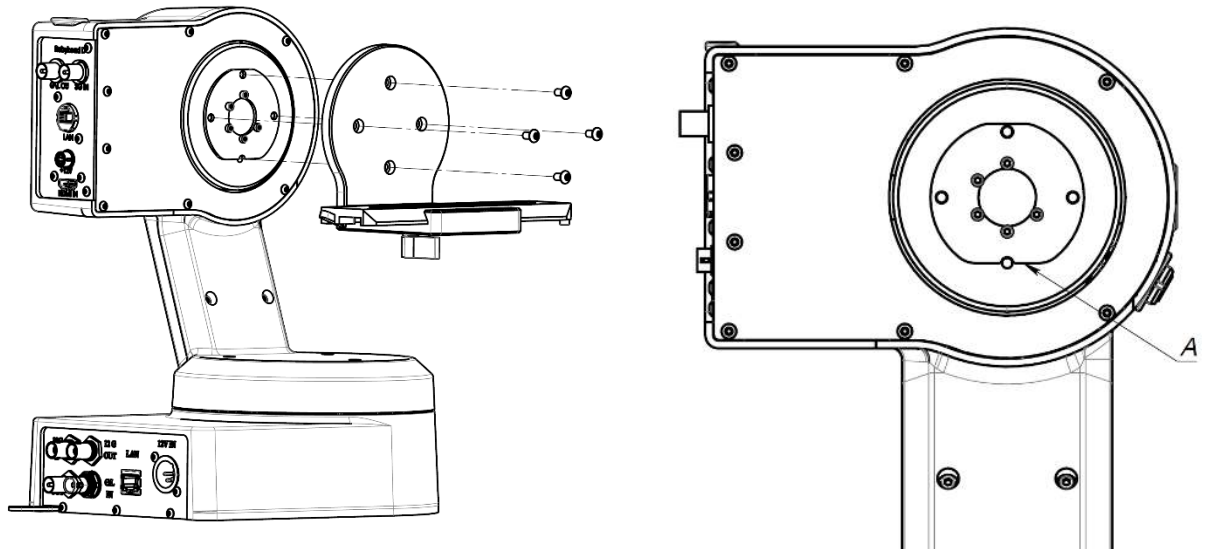
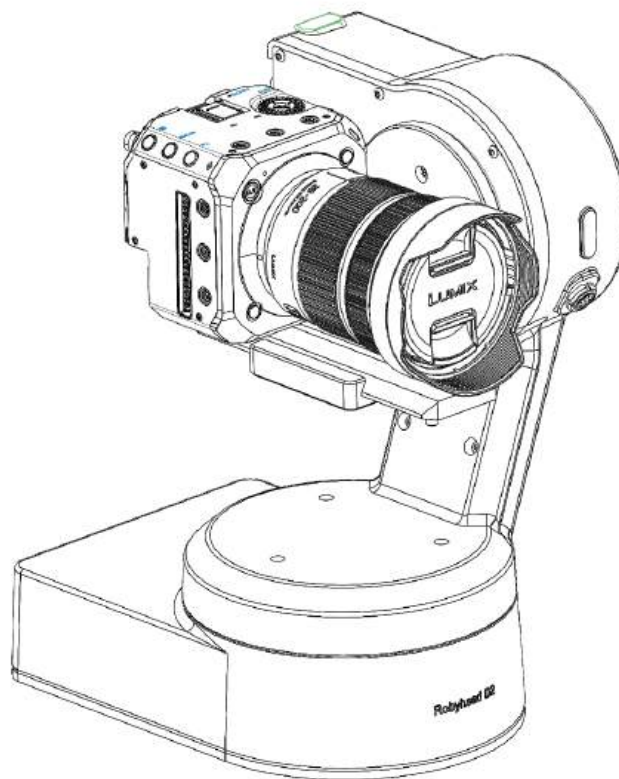

Fig. 8 «Standard» camera mount assembly
Fig. 9 Mounting a camera on the "standard" camera mount
Use the "standard" camera mount assembly only for desktop mounting the D2 'right-side up' (Fig. 8 and Fig. 9).
1. Unscrew the 4 screws securing the arm to the base as shown in Fig. 8.
2. Flip the arm and secure it using the 4 screws as shown in Fig. 10. It is important to pay attention to the position of edge A. When securing the arm in the "standard" or "reversed" configuration, edge A must always face towards the base of the pan-tilt unit (Fig. 8 and Fig. 10). Failure to comply with this requirement will affect the camera's rotation angles, which may lead to the camera or lens colliding with the device housing.